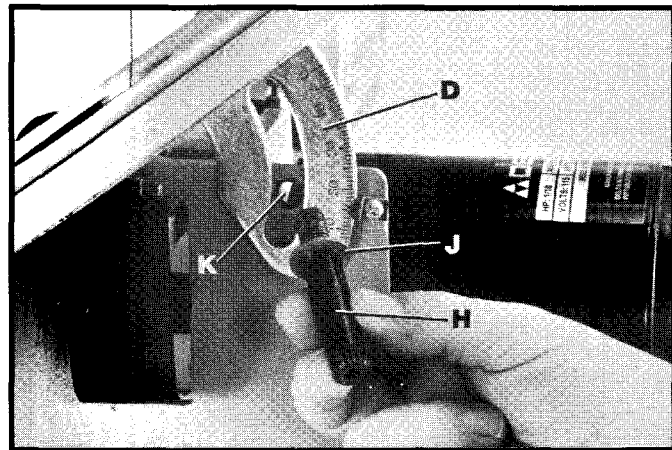

Fig. 6
4. Screw threaded end of stud (H) Fig. 6, with flat washer (J) through slot in angle of tilt scale (D) and into tapped hole (K).